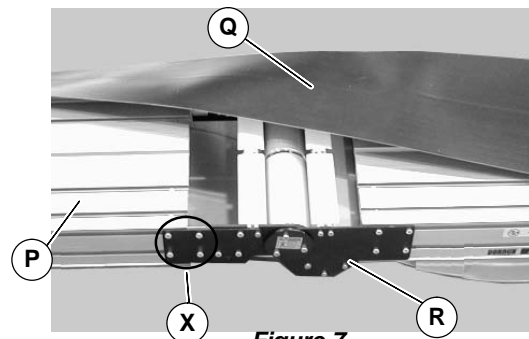

Figure 7
3. Roll out conveyor belt (Q of Figure 7). Loosen (4) screws (X) on both sides of knuckle (R). Slide frame (P) into knuckle (R). Tighten screws (X) to 60 in-lb (7 N-m) on both sides of conveyor.